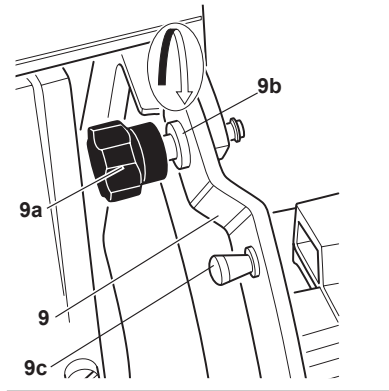

Figure 12-2
- Close the knife guard (9). Loosen, but do not remove, the top and bottom knobs (9a) on the knife guard (9) (Figure 12-2).
- Tighten the top and bottom knobs (9a) on the knife guard (9).